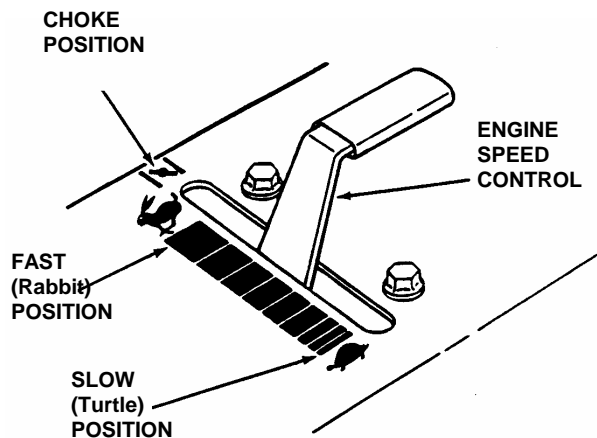

FIGURE 3.3
4. Move Engine Speed Control to "FAST/CHOKE" position. See Figure 3.3.
2. Move Engine Speed Control to the FAST (Rabbit) position. See Figure 3.3.